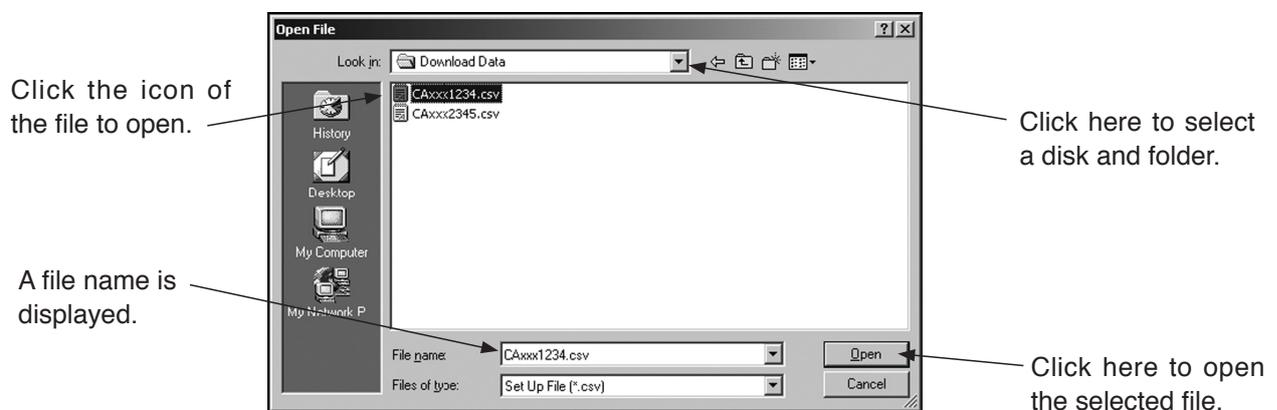

Fig.160
- ① Click the "File (F)" menu, and then select and click "Open File (O)" from the "Database (F)" drop-down list.
- ② The common dialog box (Fig. 160) appears. Select the disk and folder which have the file to be opened from the drop-down list.
- ③ Select the file to open from the displayed files. Verify the "File Name (N)" and then click the "Open (O)" button. Click the "Cancel" button to exit without opening a file.